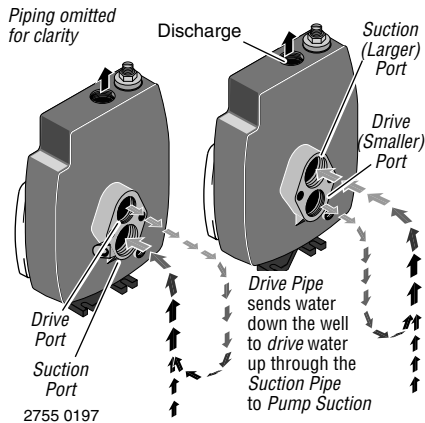
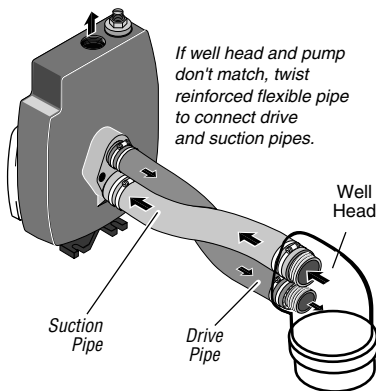

Figure 2: Drive and Suction Functions
Figure 3: Reversed Connections to Well
- Step 3. If your old pump has the suction pipe (the larger port – see Figure 2) below the drive port, you will need to install flexible pipe between the well head and the pump so that the connection will be correct. (See Figure 3).